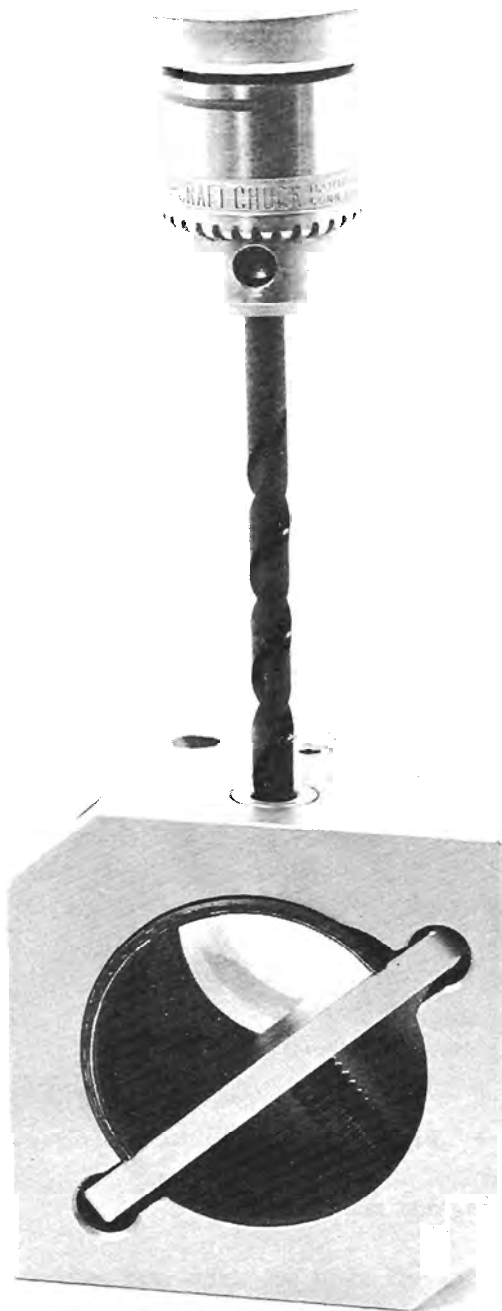

Figure 24. Drilling Hole in Bearing.
4. Put fixture in vise to hold securely. Drill hole in bearing with 1/4 inch drill thru bushing in fixture. (See Figure 24.)